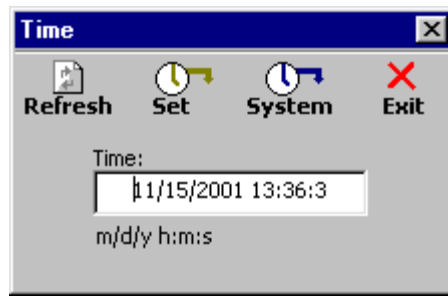

Figure 3-71
2. The **Time** window is displayed (figure 3-71), with the currently set date and time displayed.